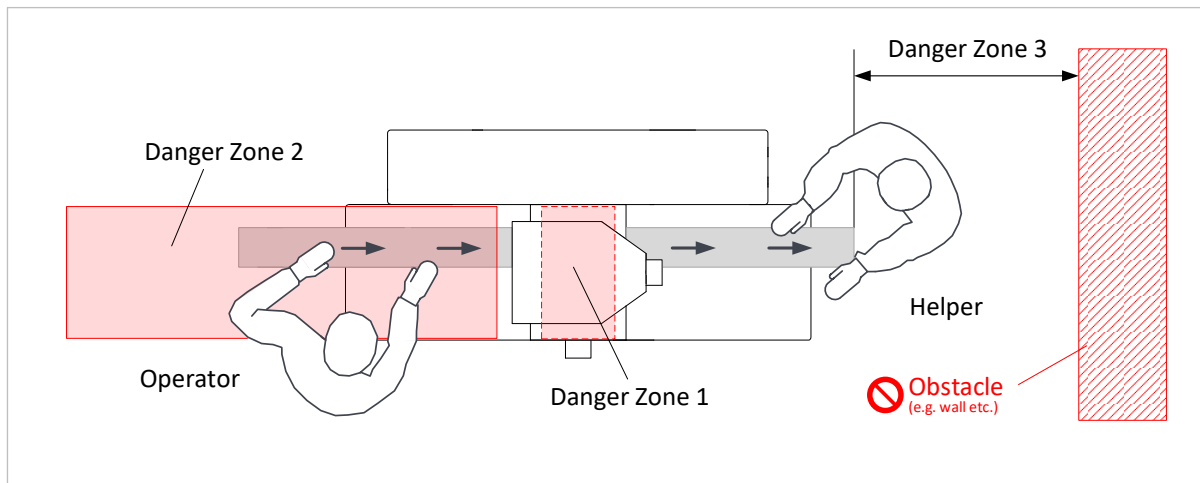

Figure 3: Danger zones during thicknessing
- The operator of the machine must generally stand on the infeed side of the machine, in the cutting direction and with his body to the side of the machine table during thicknessing. Do not enter the Danger Zone 2 marked in ⇨ Figure 3 while the cutter is running.